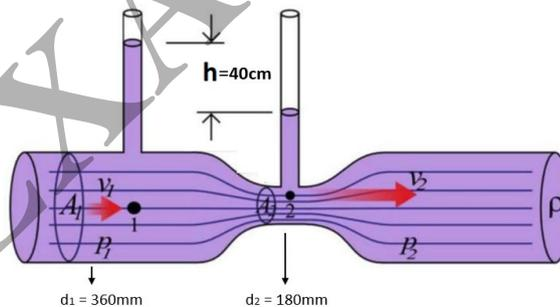

Figure Q2b: Venturi meter showing pressure difference between inlet and throat
- b) A venturi meter with a throat diameter of 180mm is fitted into a horizontal pipeline of 360mm through which water flows. The pressure difference between the entry and throat is measured by a U-tube manometer. If the difference in level indicated by the manometer is 40cm, calculate the velocity at point 1 and at the throat of the venturi meter shown as point 2 in Figure Q2b.